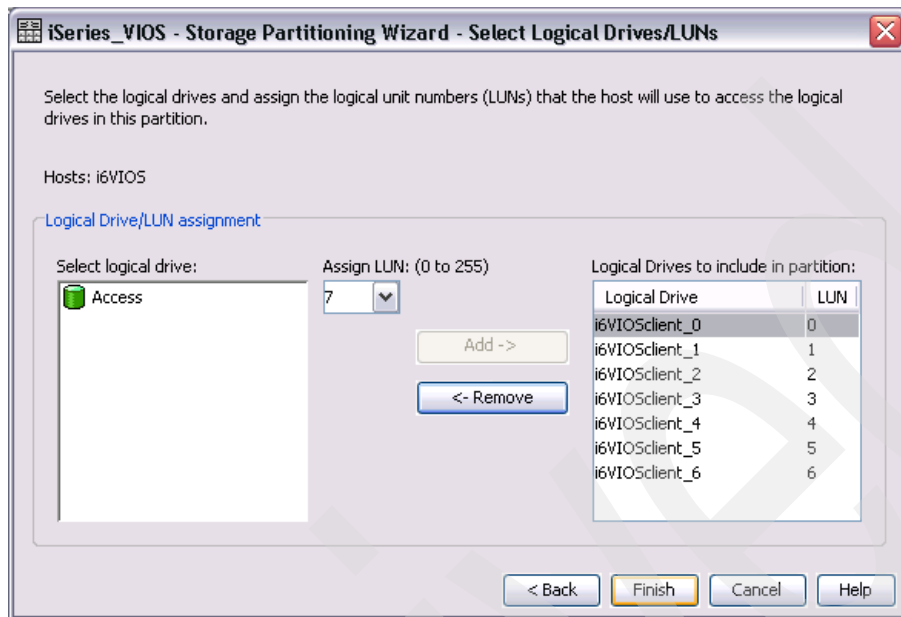

Figure 7-78 DS Storage Manager Storage Partitioning Wizard after mapping all host LUNs
5. We repeat step 4 above and map the six remaining logical drives by using the default next-available LUN number until we have all seven logical drives mapped to a LUN and select **Finish**, as shown in Figure 7-78.